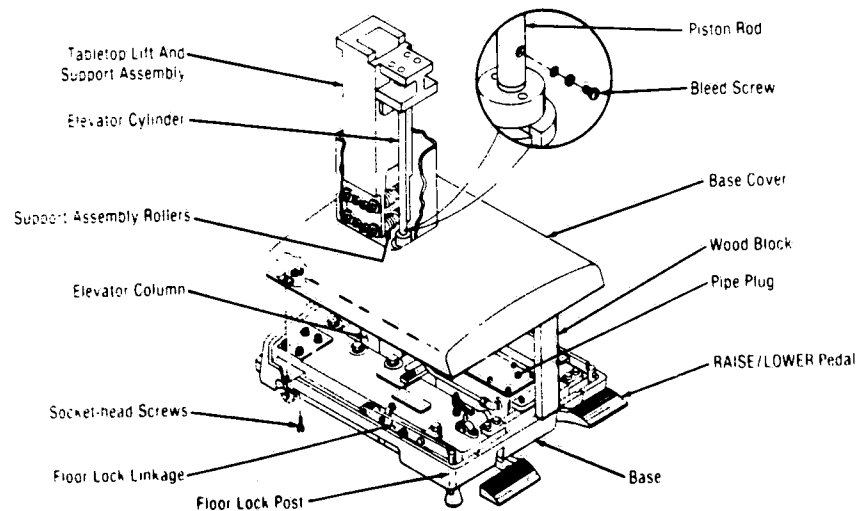

Figure 3. BASE ASSEMBLY.
4.2.1. Service base assembly (see Fig. 3):
4.3.1. Service lift assembly (see Fig. 3):
4.3.2. Check oil level and lubricate caster assemblies (see Fig. 3):
4.3.3.5. Loosen bleed screw (see Fig. 3). Pump RAISE/LOWER pedal. Allow fluid to flow until all trapped air has escaped. Tighten the screw; be sure it is completely recessed in piston rod.